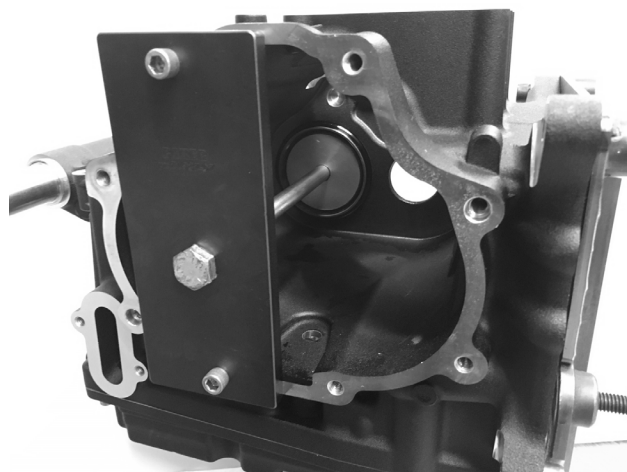

FIGURE 8 | TAPERED BEARING ADAPTER TOOL SETUP, RIGHT SIDE VIEW
2. Use the aluminum cup provided in your kit in combination with the main drive gear installation tool (BAKER TOOLA-07 or H-D equivalent 35316C) to install the tapered bearing adapter. Refer to the section on installing the main drive gear bearing in your Factory Service Manual. The tool will be set up in a similar manner, but with a few key differences. The tapered bearing adapter will take the place of the traditional main drive gear bearing, and the included aluminum cup will take the place of the bearing driver. See figures 8 and 9 for the proper tool setup.